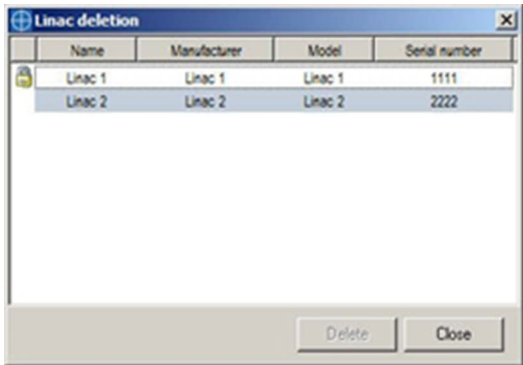

Figure 3-12. Linac Deletion Dialog
- Open the Linac deletion dialog (see Figure 3-12).